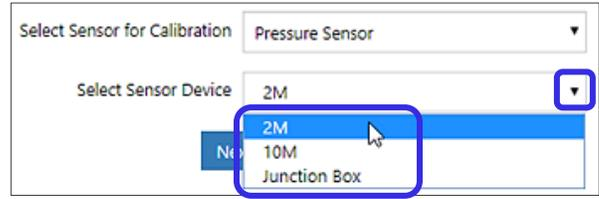

Figure 120: Select device for calibration
2. Click the down arrow icon ▼ in the **Select Sensor Device** field, and select the appropriate device to calibrate (Figure 120).